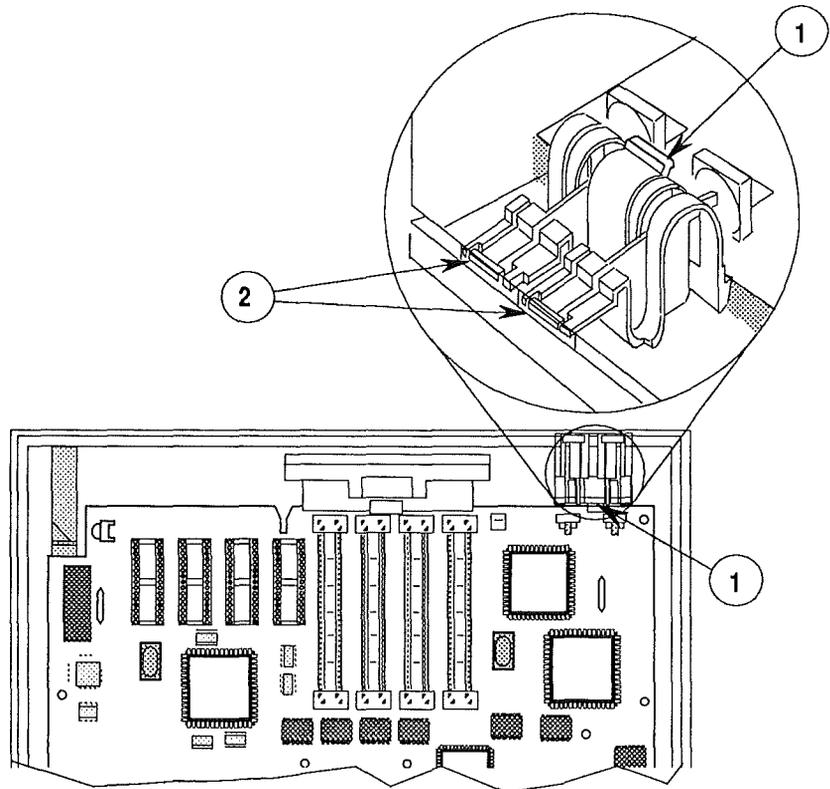

FIGURE 17
1. Using one finger, lift up on the center tab (Figure 17, #1) of the switch. This action releases the switch from the logic board.
Insert the front end of the switch (Figure 17, #2) down and into the two slots at the right-front bottom of the case. As the tabs on the front of the switch go into the slots, push the rest of the switch down until it snaps under the edge of the main logic board.